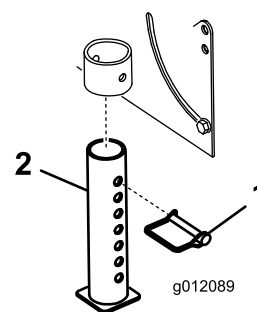

Figure 5
1. Remove the snapper pin securing the stand to the tube on the blower frame (Figure 5).
2. Lower the stand, install the pin through the upper set of holes in the stand and tube (Figure 5), secure the pin.